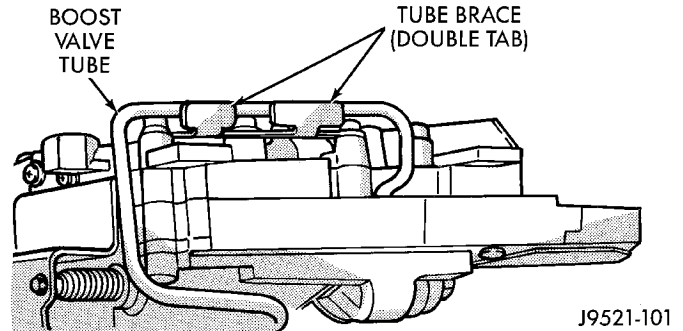

Fig. 58 Boost Valve Tube Brace
(26) Bend back tabs on boost valve tube brace (Fig. 58).